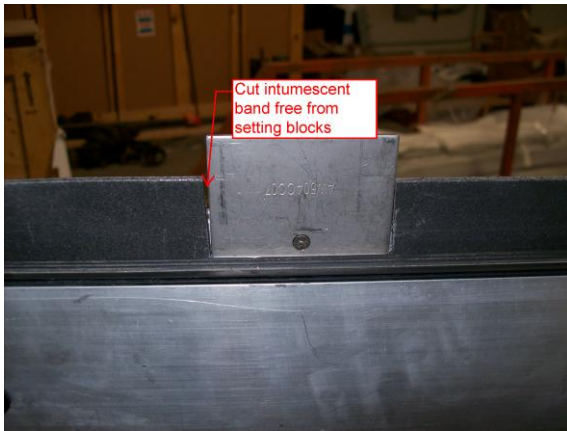

Figure 7
- b. Make sure intumescent band does **not** cover the stainless steel setting blocks. If needed, cut the band. See Figure 7.